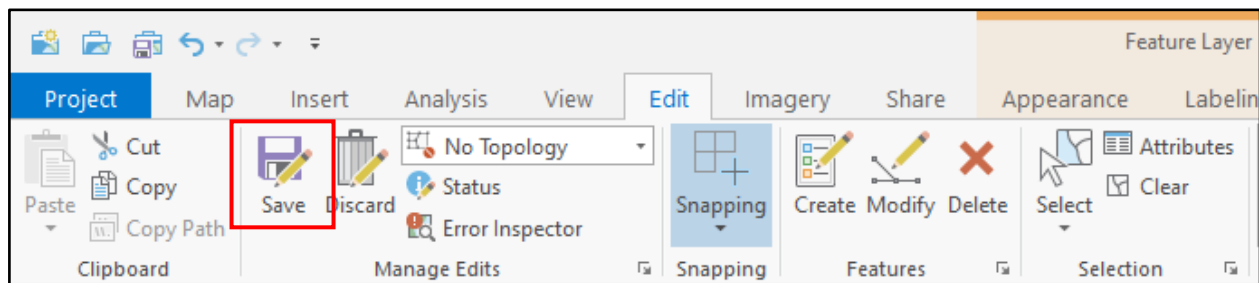

Figure 40. Saving a new feature in ArcGIS Pro.
9. Once the feature has been drawn, click the Edit Tab and then click "Save" (Figure 40, below).